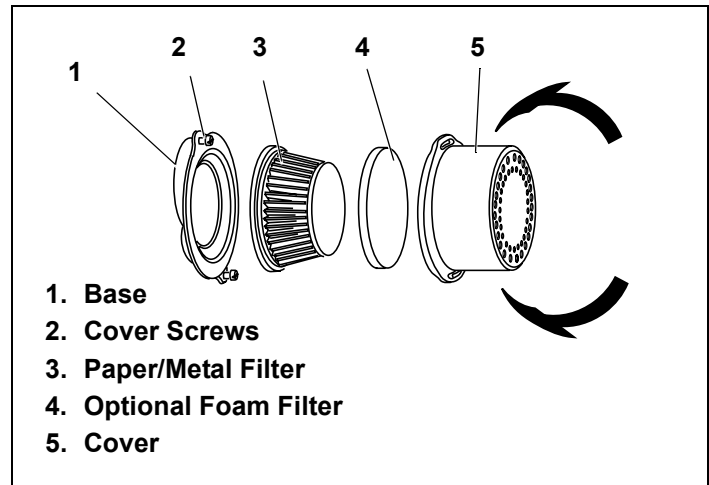

Figure 35. Air Cleaner Type "A" Assembly
1. Loosen cover screws. See Figure 35.